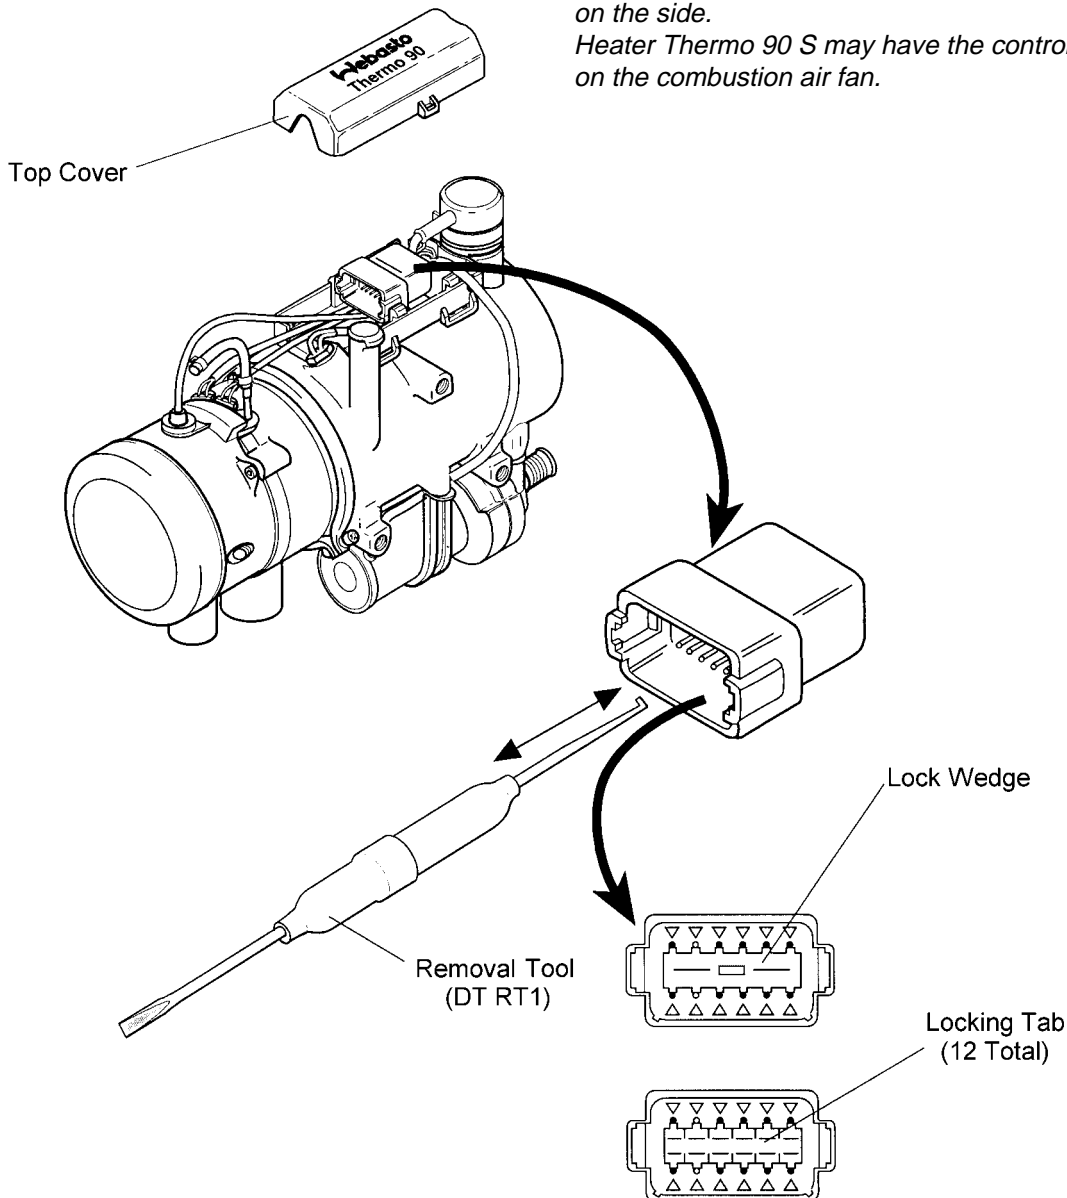

Fig. 9-1 Electrical Connections
9.2.1 Electrical Connections (Fig. 9-1)